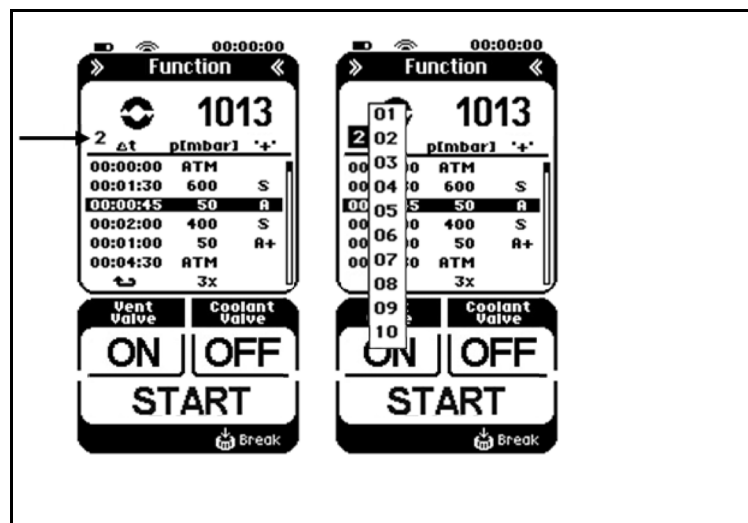

Fig. 13: Menu for Function operating mode
Line selection (see Fig. 13):
- Press the button to select data point tables (arrow in Fig. 13) and select the required data point table.
**i** Up to 10 different data point tables can be stored and called as required. The number in the display (arrow in Fig. 13) indicates the data point table that is currently selected.